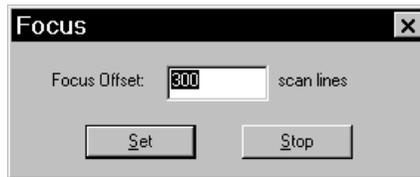

Figure 4-14. The Focus window.
2. Click **Continue**. The Focus window appears (figure 4-14).